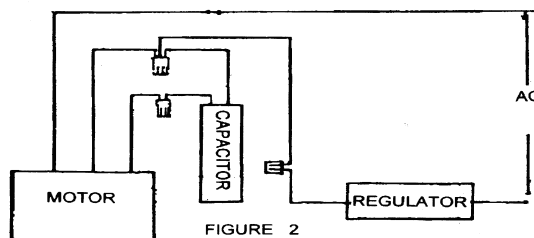

FIGURE 2
4. Make wiring connections with regulators as shown on fig.2.